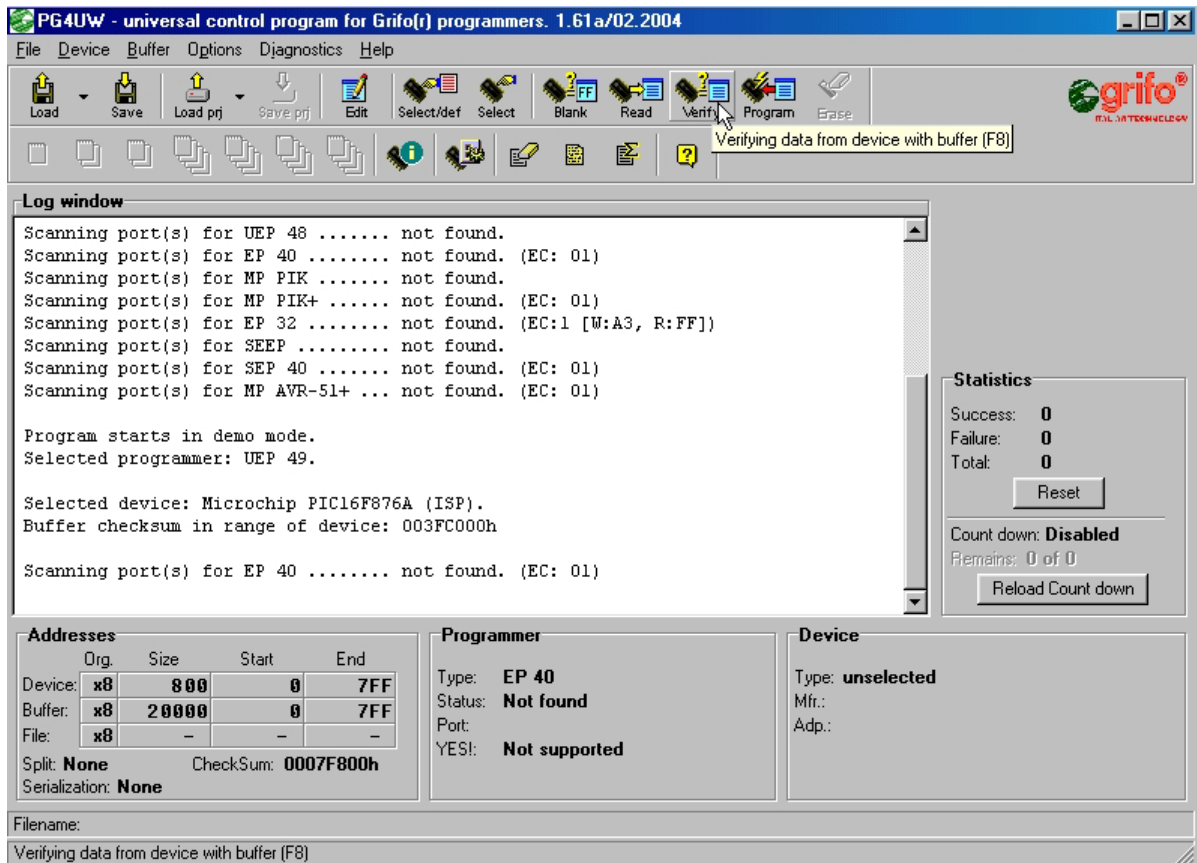

FIGURE 13: VERIFY DEVICE MEMORY MENU
- After programming, you can verify the content of the programmed device with the content of the memory buffer through the Device/Verify menu or the keyboard shortcut <F8> (figure 13, Windows version).